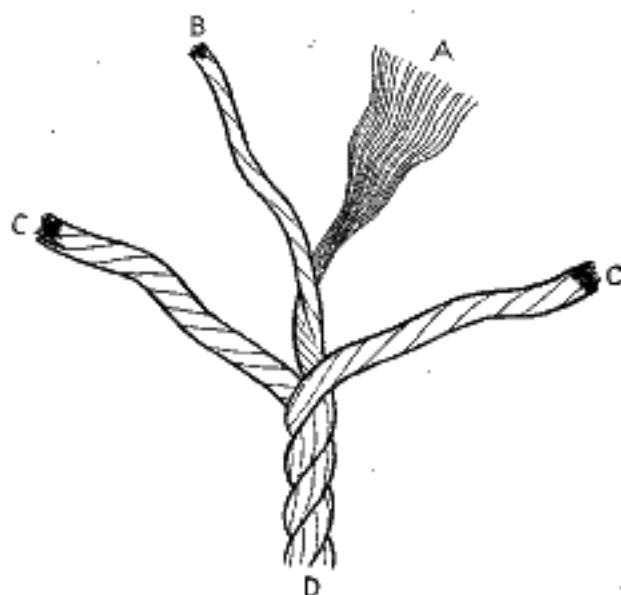

FIG. 313.—Parts of rope. *A*, fibers; *B*, yarn; *C*, strand; *D*, whole rope.
**373. How Rope Is Made.**—Rope is made of fibers of certain vegetable plants. The fibers *A* (Fig. 313) are twisted together in a right-hand1